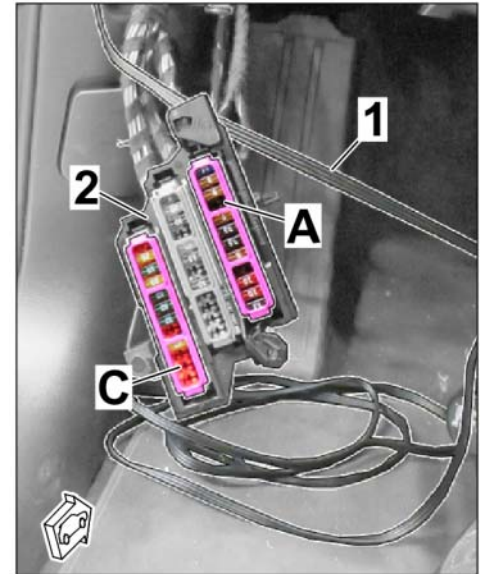

Figure 14
- Roof console → under headliner along windscreen frame → left A-pillar (top) → along A-pillar → fuse carrier on dashboard (left → *Figure 14*) → BK 0.5² line → ground pin (LHD: MB21)